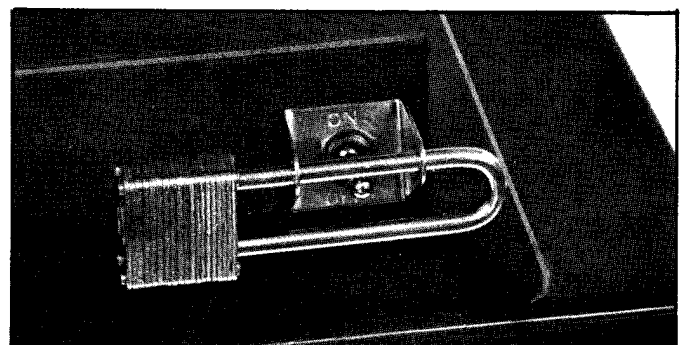

Fig. 10
6. We suggest that when the drill press is not in use, the switch be locked in the "OFF" position using a padlock, as shown in Fig. 10. Catalog No. 49-031 Padlock is available as an accessory.